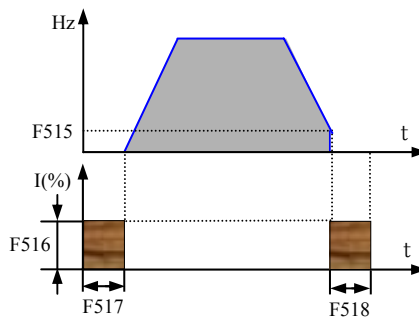

Fig 5-9 DC Braking
- DC braking, as shown in Fig 5-9.